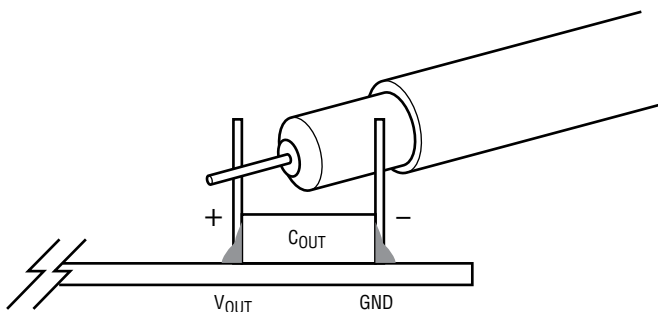

Figure 2. Scope Probe Placement for Measuring Input or Output Voltage Ripples
5. Once the input and output voltages are properly established, adjust the input voltage between 3.1V to 17V and the load current within the operating range of 0A to 3.5A max per channel. Observe the output voltage regulation, output voltage ripples, switch node waveform, load transient response and other parameters. Refer to Figure 2 for proper output voltage ripple measurement.
Note 1: To measure the input/output voltage ripples properly, do not use the long ground lead on the oscilloscope probe. See Figure 2 for the proper scope probe technique. Short, still leads need to be soldered to the (+) and (–) terminals of an input or output capacitor. The probe's ground ring needs to touch the (–) lead and the probe tip needs to touch the (+) lead.